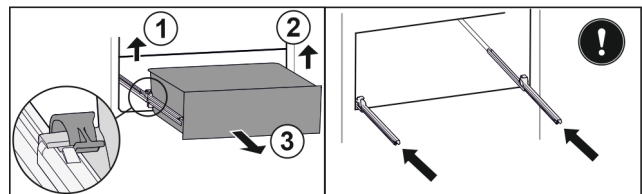

Fig. 152
- ▶ Lift left clamp and simultaneously pull drawer forwards on the left. Fig. 152 (1)
- ▶ Lift right clamp and simultaneously pull drawer forwards on the right. Fig. 152 (2)
- ▶ Remove drawer to the front. Fig. 152 (3)